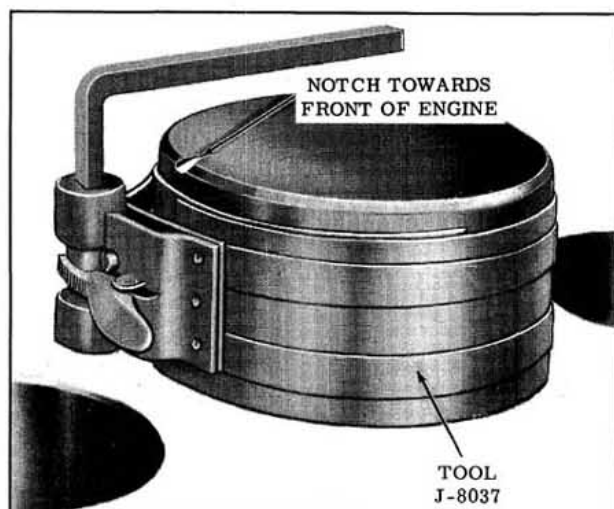

Fig. 3-33 Piston Ring Compressor
14. Lubricate the piston and rings and install in bore by compressing the rings either with a "wrap around" compressor or a split ring type such as shown in Fig. 3-33.